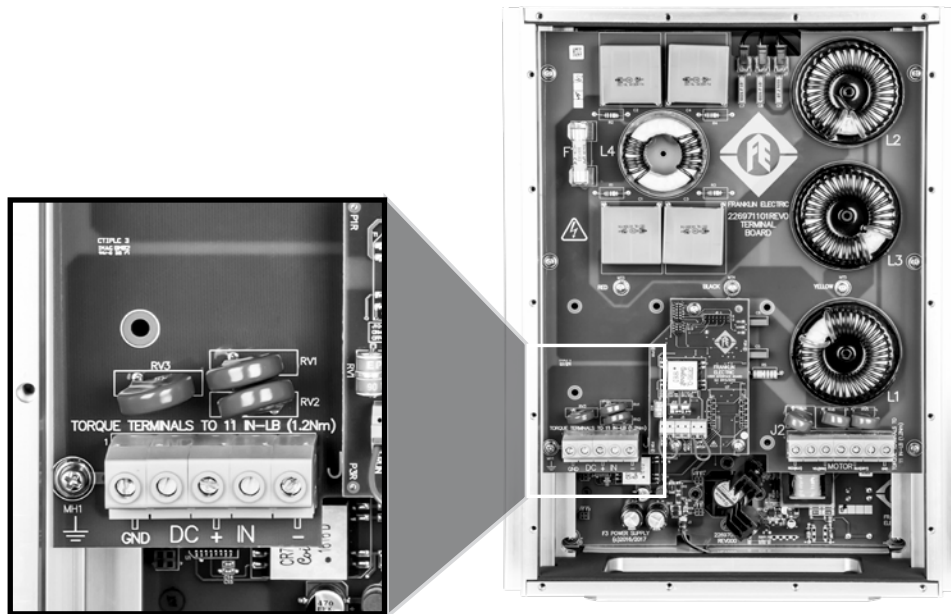

Figure 4: DC Wiring Connection
3. Connect the cables from the external DC disconnect to the terminal block labeled “Solar Primary DC” and marked +, - and GND (Figure 4). Torque specification: 12 in-lbs / 1.35 Nm (Use copper conductors only. Rated 75 °C minimum.)